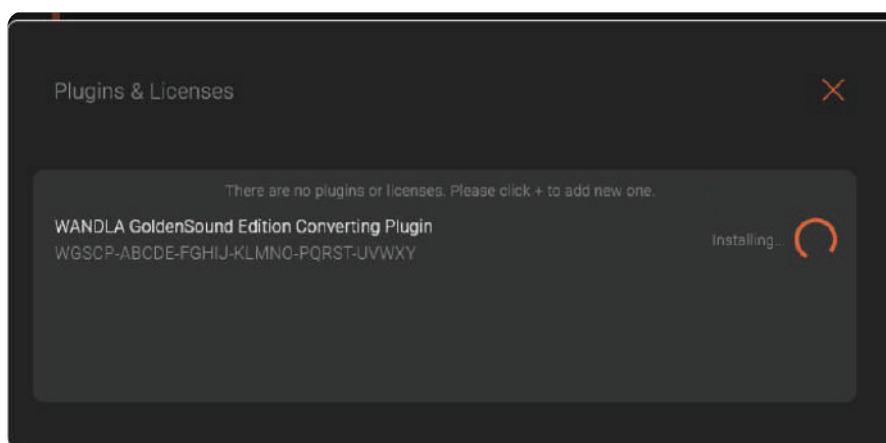

Figure 17
7. Click for ☒ accept and wait for the installation to complete, including a device restart (Fig.17).